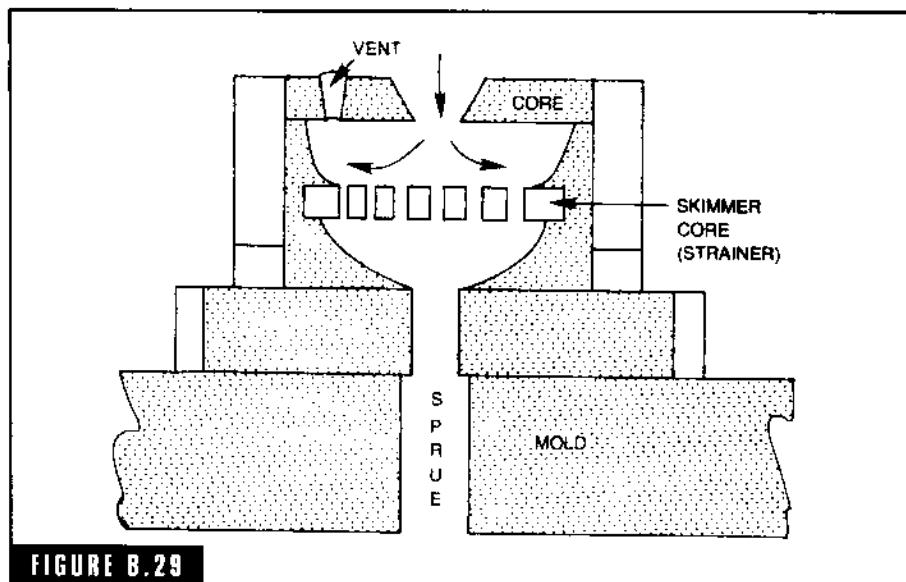

FIGURE B.29
**Brunetti strainer** Invented by an Italian foundry engineer (Fig. B-29). His claim is that his pouring system does away with the necessity of risers or feeders on large castings. He also claims the metal entering the mold is oxidized in proportion to the volume of air with which it comes in contact.